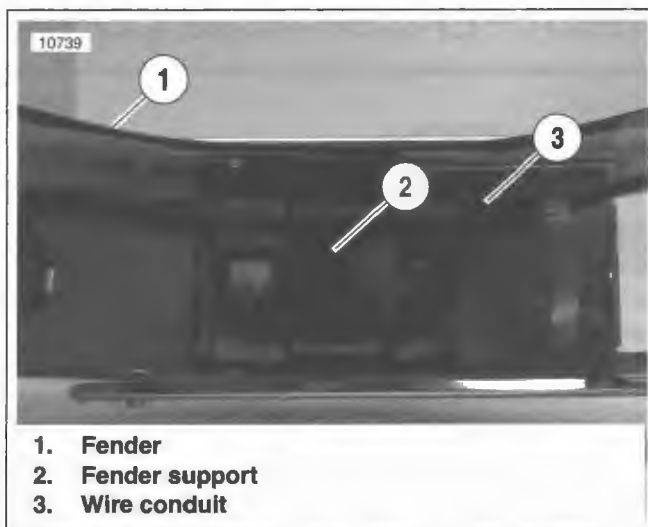

Figure 2-146. Rear Fender Wire Routing: FLSTN
See Figure 2-146. If fender support (2) has been removed, do not tighten luggage rack hardware until rest of fender has been installed.